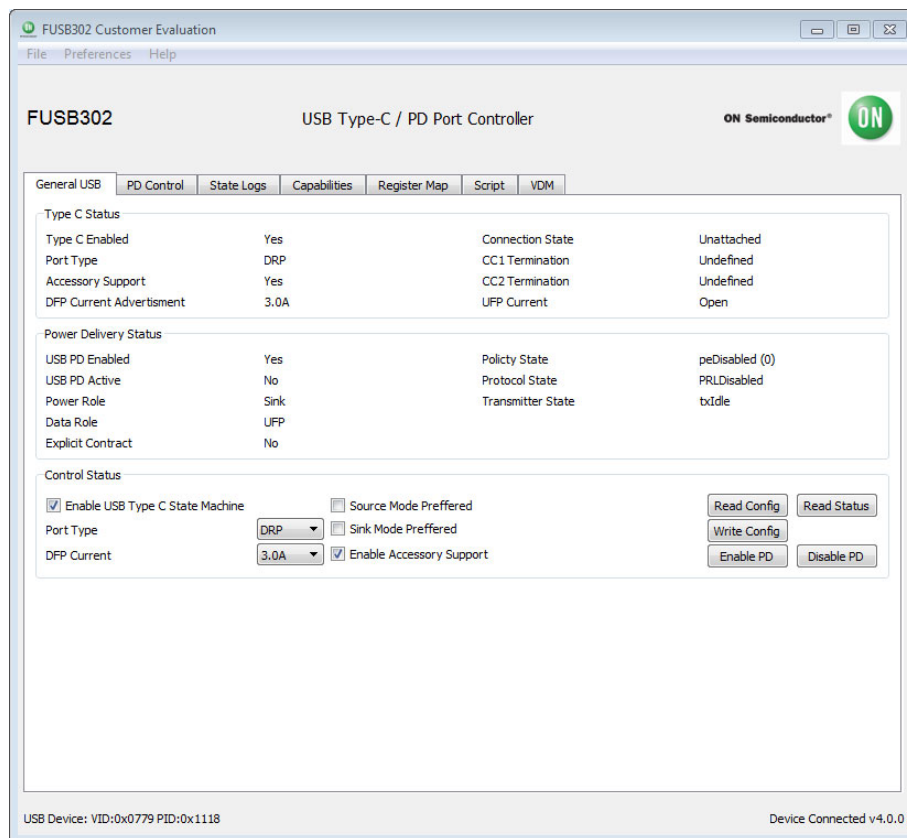

Figure 4. Initial Page of FUSB302GUI
4. The base operation GUI will appear as shown in Figure 4 below.